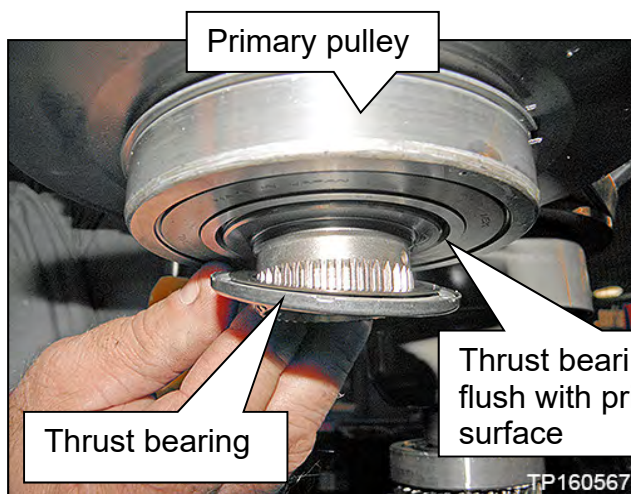

Figure 100
74. Install the original thrust bearing on the primary pulley of the new sub-assembly (Figure 100).